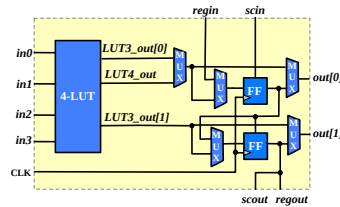

Fig. 3.8: Detailed schematic of a logic element
As shown in Fig. 3.8, each Logic Element (LE) consists of
- two D-type Flip-Flops (FF)